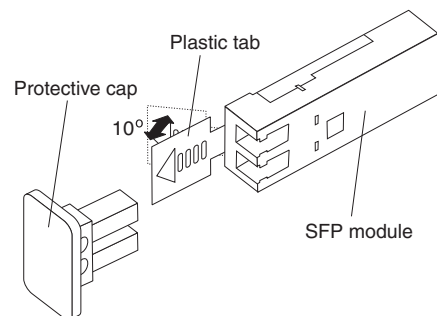

Figure 32. Unlocking an SFP module - plastic tab
- a. Unlock the SFP module by pulling the plastic tab downward 10° (see Figure 32).